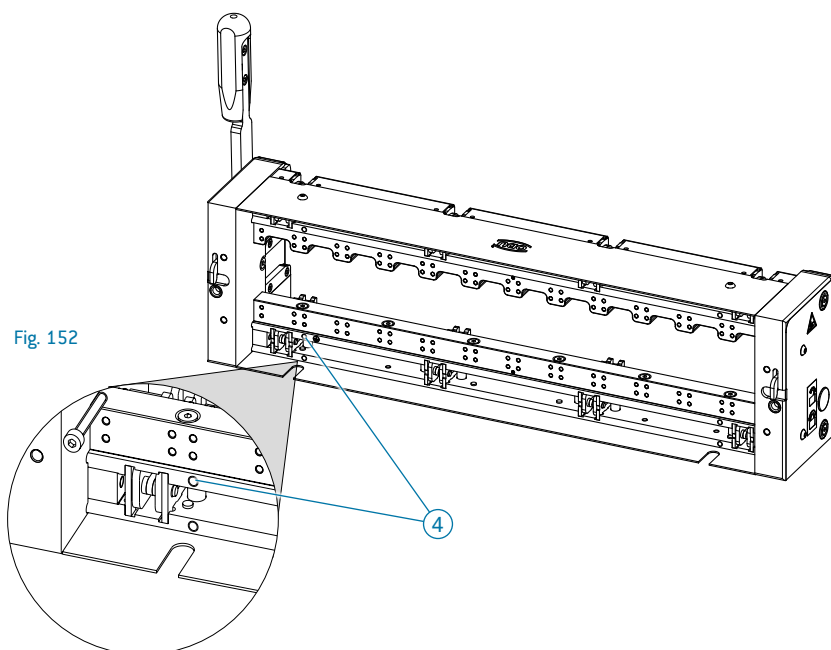

Fig. 152
- If the receiver (1) is operated without additional screw-on parts (2), the protective-conductor terminal should be attached at the position marked (4) in Fig. 152; see Table Section 6.17 for the prescribed torque.